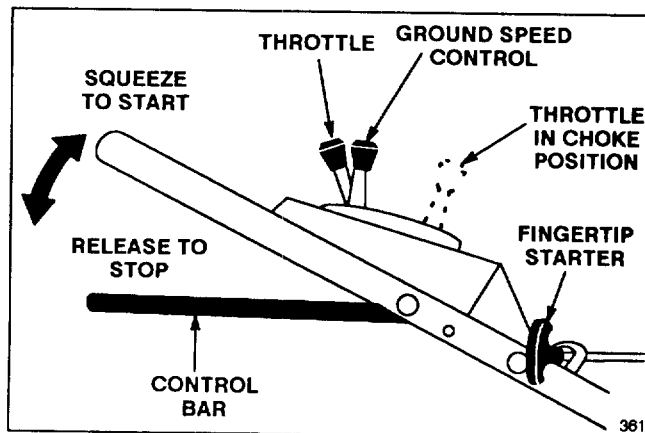

Figure 8
3. **KEY-ELECTRIC STARTING** – Move ground speed control to "N" and throttle to CHOKE. Lift control bar to handle (Fig. 8) and hold. Turn key to START and release when engine begins running. When engine starts, remove throttle from CHOKE and regulate as desired. If the battery's charge is too weak to start the engine, the engine can be started with the fingertip starter (Fig. 8).
4. **MANUAL STARTING** – Move ground speed control to "N" and throttle to CHOKE. Lift control bar to handle (Fig. 8) and hold. Pull fingertip starter out until positive engagement results; then pull vigorously to start the engine. When engine starts, remove throttle from CHOKE and regulate as desired.
5. **GROUND SPEED/SELF-PROPEL OPERATION** (Fig. 8 & 9) – Move control bar to the RUN/SHIFT position. Move ground speed control to desired setting. Number "1" is slow, "2" is medium, and "3" is a fast walking pace. Move ground speed control to "N" when using the mower for trimming and whenever leaving mower.